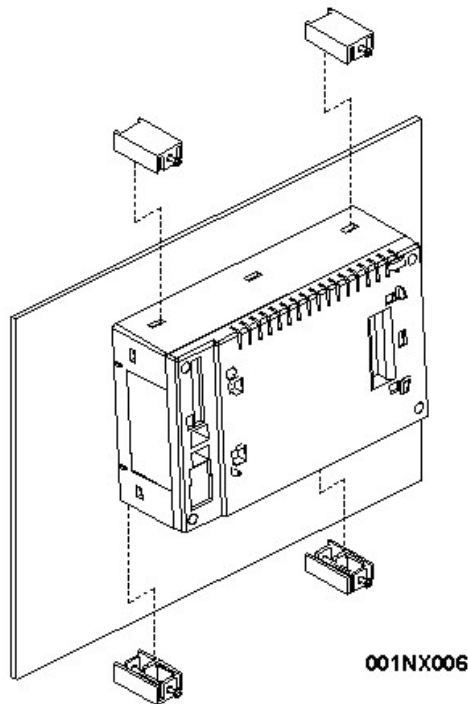
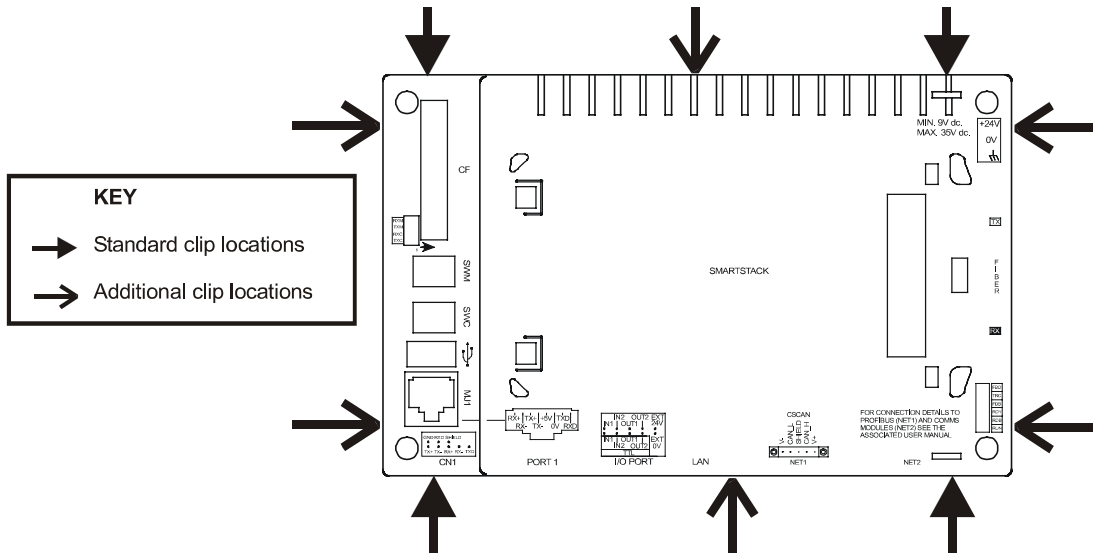

Figure 3 – Four Standard Mounting Clips
Figure 4 – Locations for 10 Mounting Clips for Optimum Seal Against Leaking (Extra Clips required for NEMA 4/4X or IP65 washdown applications.)
2. Place the OCS in the panel cutout. Secure the unit as shown in **Figure 3** using the four (4) supplied mounting clamps. **Figure 4** shows the possible clamping locations (10 possible), and the locations recommended for most applications. **For NEMA 4/4X washdown applications, the optional accessory kit HE-ACC006 is required.** This kit includes six additional mounting clips so that all mounting locations can be secured to provide an optimum seal against leaking.
Figure 4 shows locations for **four standard** mounting clips and also **six additional** clips contained in optional accessory kit **HE-ACC006**, which is required for NEMA 4/4X or IP65 washdown applications.